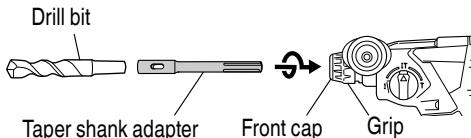
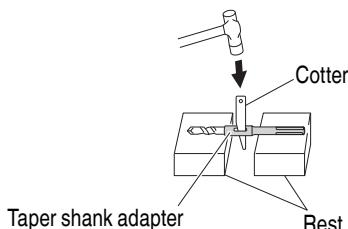

Fig. 23
Fig. 24
- (1) Mount the taper shank adapter to the rotary hammer (Fig. 23).
- (2) Mount the drill bit (taper shank) to the taper shank adapter (Fig. 23).
- (3) Turn the switch ON, and drill a hole in prescribed depth.
- (4) To remove the drill bit (taper shank), insert the cotter into the slot of the taper shank adapter and strike the head of the cotter with a hammer supporting on the rests (Fig. 24).